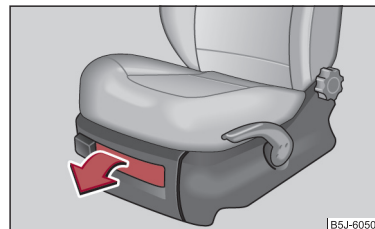

Fig. 84 Front seat: Storage compartment
- Tilt the lock to open the flap and pull out the flap ⇒ fig. 84.